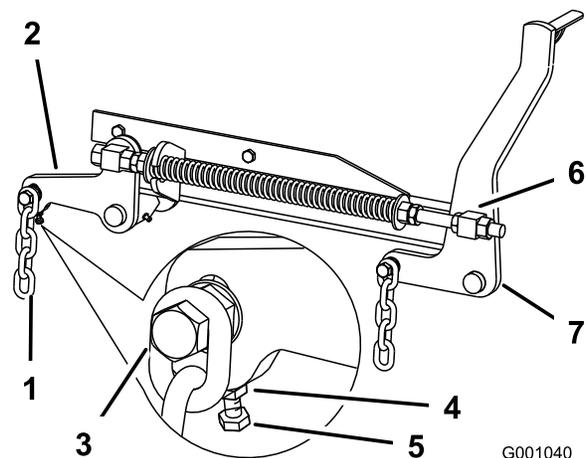

Figure 79
7. If the measurements at positions **B** or **C** are not correct, loosen the bolt attaching the rear chain to the rear support arm (Figure 79).
8. Loosen the jam nut under the rear support arm and adjust the adjustment bolt to get a measurement of 7.9 to 8.3 cm (3-1/8 to 3-1/4 inches) (Figure 79).
7. Loosen the front swivel jam nuts, at the front of the right and left swivels, approximately a 13 mm (1/2 inch) (Figure 79).
8. Adjust the lift nuts on both the left and the right side of the machine to achieve 6 to 10 mm (1/4 to 3/8 inch) lower in front at **A** than in the rear at **B** (Figure 79).